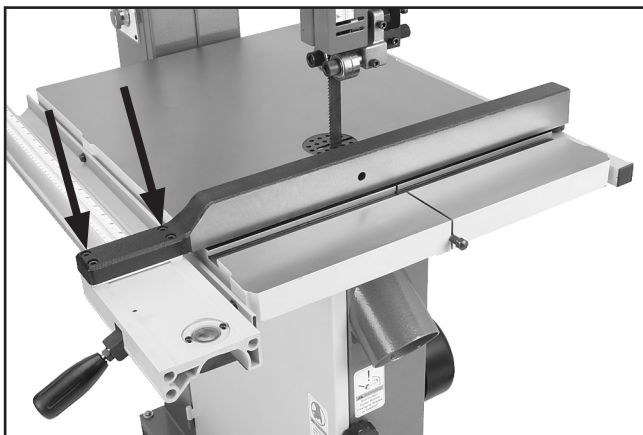

Figure 31. Four fence cap screws.
2. Loosen the four cap screws located on the top face of the fence (**Figure 31**).